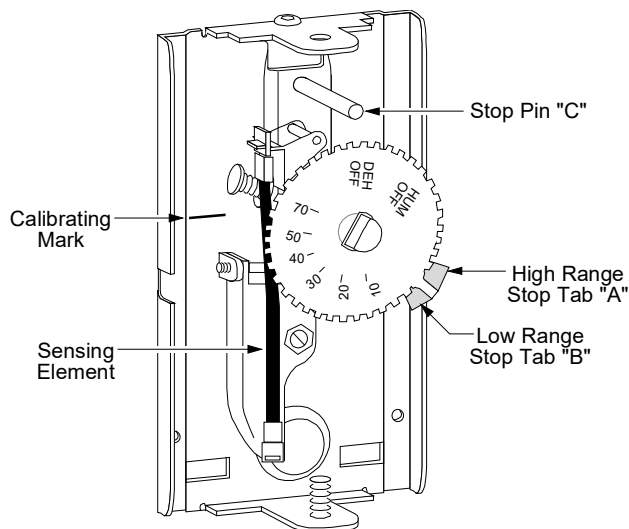

Figure 9: W43A Humidistat Range Tabs and Stop
4. While holding the dial firmly in place, keeping the setting in line with the calibrating mark, depress the tab "A" (see Figure 9) and rotate it counterclockwise until it is against the stop pin "C".
4. While holding the dial firmly in place, keeping the setting in line with the calibrating mark, depress the tab "B" (see Figure 9) and rotate it clockwise until it is against the stop pin "C".
4. While holding the dial firmly in place, keeping the setting in line with the calibrating mark, depress the tab "A" and rotate it counterclockwise until it is against the stop "C". Depress the tab "B" and rotate it clockwise until it is against the stop pin "C". See Figure 9.